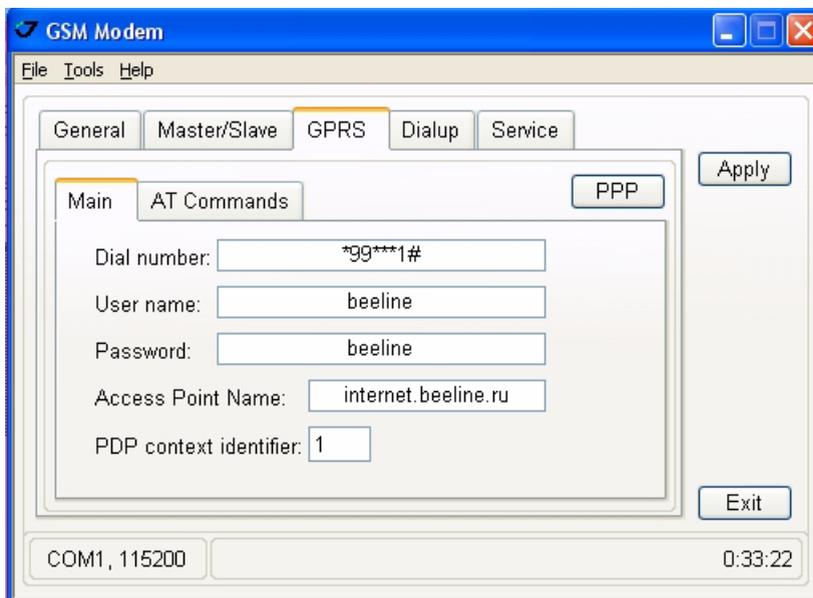

Figure 3-7. GPRS tab
2. In the *GPRS* tab it is necessary to set the dial number, user name and password, access point name and PDP context identifier to establish a GPRS connection. As usually, this information is given by cell provider (Figure 3-7 on page 49).